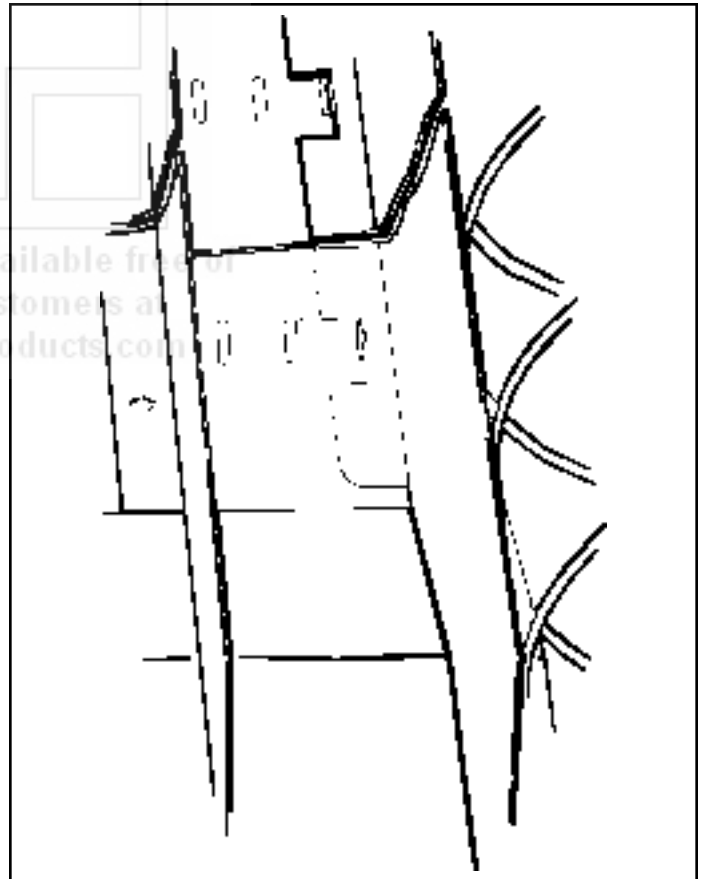

figure 4. ALIGNMENT OF MOVEABLE PRODUCT SPACERS.
5. **PRODUCT SPACERS—4 SELECTION SHELF:** A product spacer is used to reduce the width of the product area and should be used on any 4-selection snack shelf where the product width is 4 1/2" or less. Spacers should fit within 1/8" of the product but should not fit tight against the product. There are three positions in each snack space where these spacers can be placed. To install the spacer, align the lock ears (on the lower edge of the spacer) with one of the three sets of slots (one front and one rear). (See Figure 4). Push the spacer to the rear to allow the ears to enter the slots, then allow the spacer to move forward. Be sure the ears are in the same set of slots, front and rear. (See Figure 4). Continue loading all spirals adjust with spacers where needed in the top shelf. Return the top shelf to the vend position and following this procedure load the remainder of the large spiral shelves. The shelf divider separating the right (lock side) column from the next column is movable to allow vending of products wider than 5 1/2" in the second column. If this is used the right column must be used to vend a narrower product.